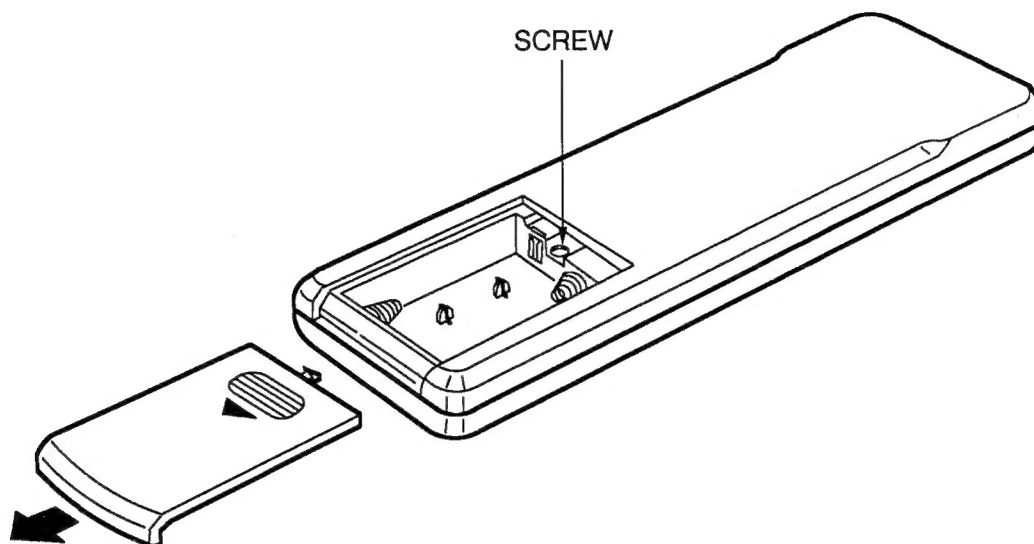

Figure-3.
1. See Figure-3. Press the battery cover downward and sliding it off the back of the transmitter.